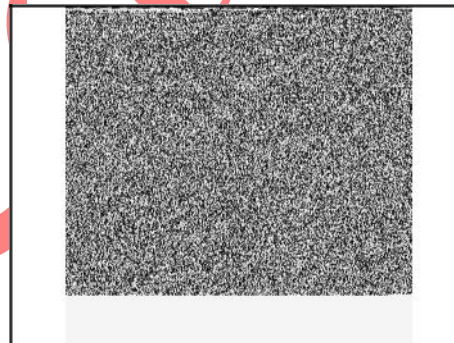

Figure 70
14. Insert the spring (**A**, Figure 70) to the bottom of the float assembly. Place the fuel bowl on the carburetor base, and fasten with screws. Torque screws per values listed in Section 12 - Engine Specifications.